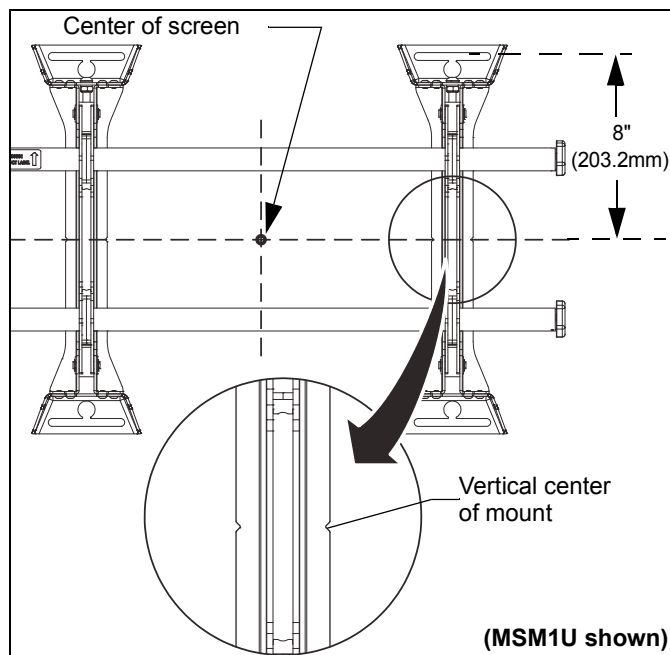

Figure 1
3. Line up the notches on mount (CC) with center of screen marking to determine vertical center. (See Figure 1)
2. Line up the notches on mount (CC) with center of screen marking to determine vertical center. (See Figure 1)
3. Measure up 8" (203.2mm) from the center point to mark location of the upper mounting slots. (See Figure 1)